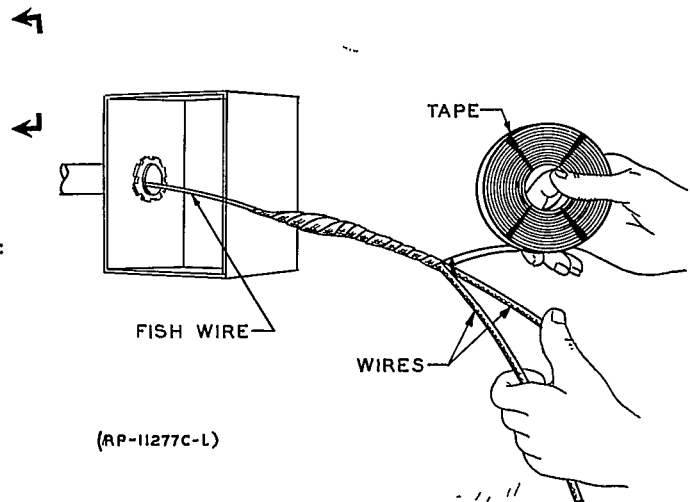

FIG. 10 TAPING THE CONNECTIONS BETWEEN THE FISH WIRE AND THE CONDUCTORS (PAR. 10.0804)
10.0804 To fish one or two small wires in conduit of comparatively straight runs pull in directly with the R-2588 fish wire as shown in Figures 10 and 11. The housing of the reel acts as a handle and gives a good grip. This eliminates the use of pliers or other special pullers. To fish large wires use a R-7850 rope attached to the wires as shown in Figure 12.